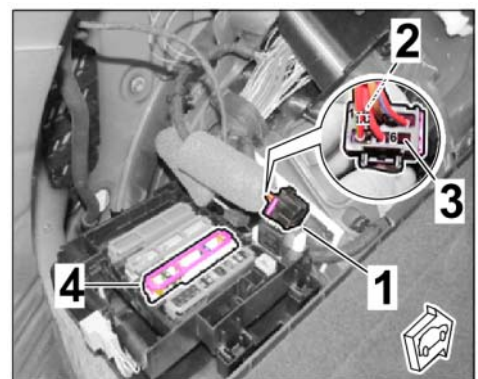

Figure 8
2.3 Check pin assignment in connector B on the vehicle side (6-pin; trailer hitch preparation). ⇒ *Figure 8*